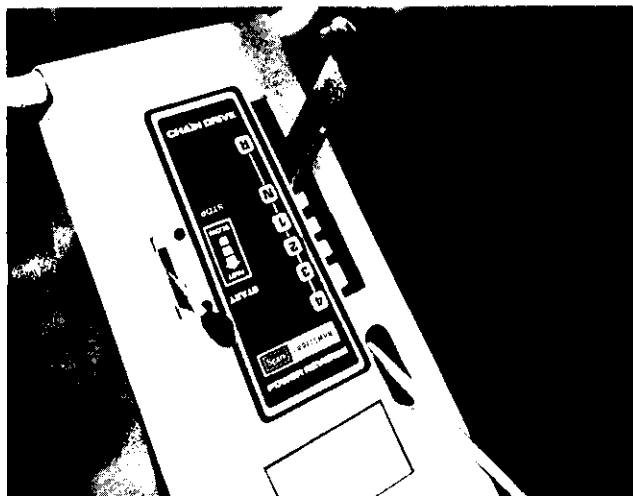

FIGURE 27.
- C. Reverse (R)—Pull the lever back (upward) slowly and intermittently. See figure 27.